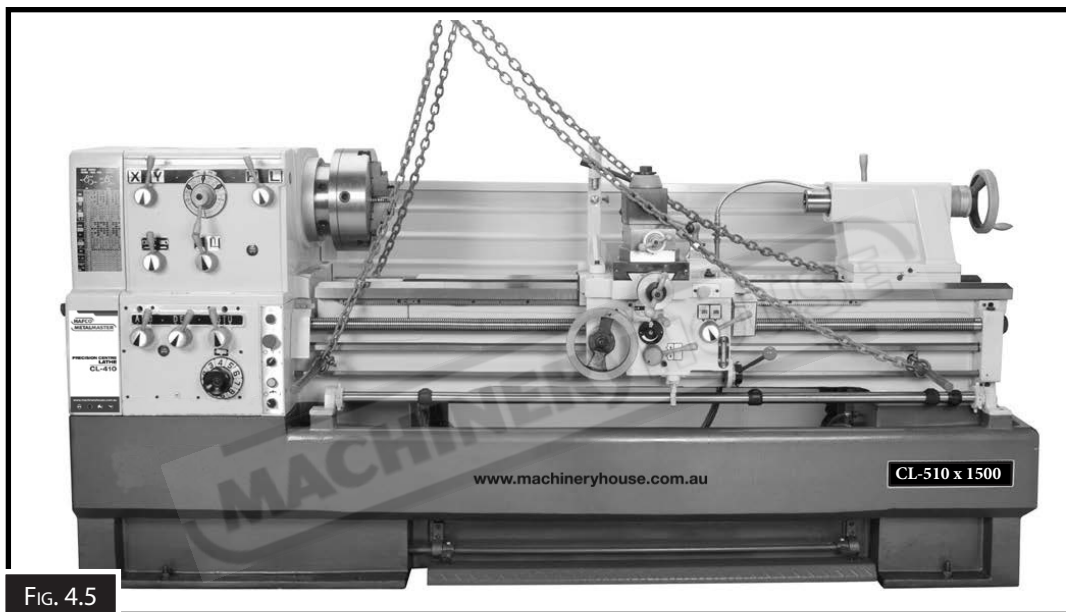
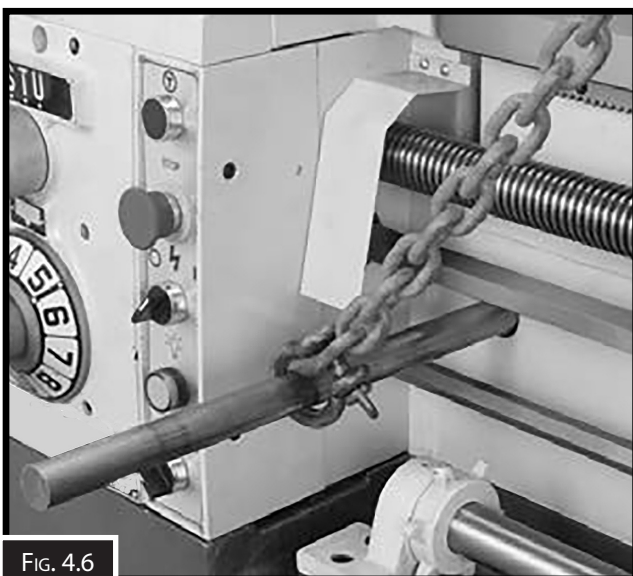

FIG. 4.5
FIG. 4.6
**Note:** Before attempting to move the carriage, make sure the carriage lock is loose, the half nut is disengaged, and the feed selection lever is disengaged. Refer to Page 18 to identify these controls. Prepare two round metal bars (approx. 830mm long x 40mm dia) and insert them into the preserved holes on the lathe bed. (See Fig. 4.5). Using web slings or chains place them around the bars and adjust the length until the lathe when it is raised is level. (see Fig. 4.6).